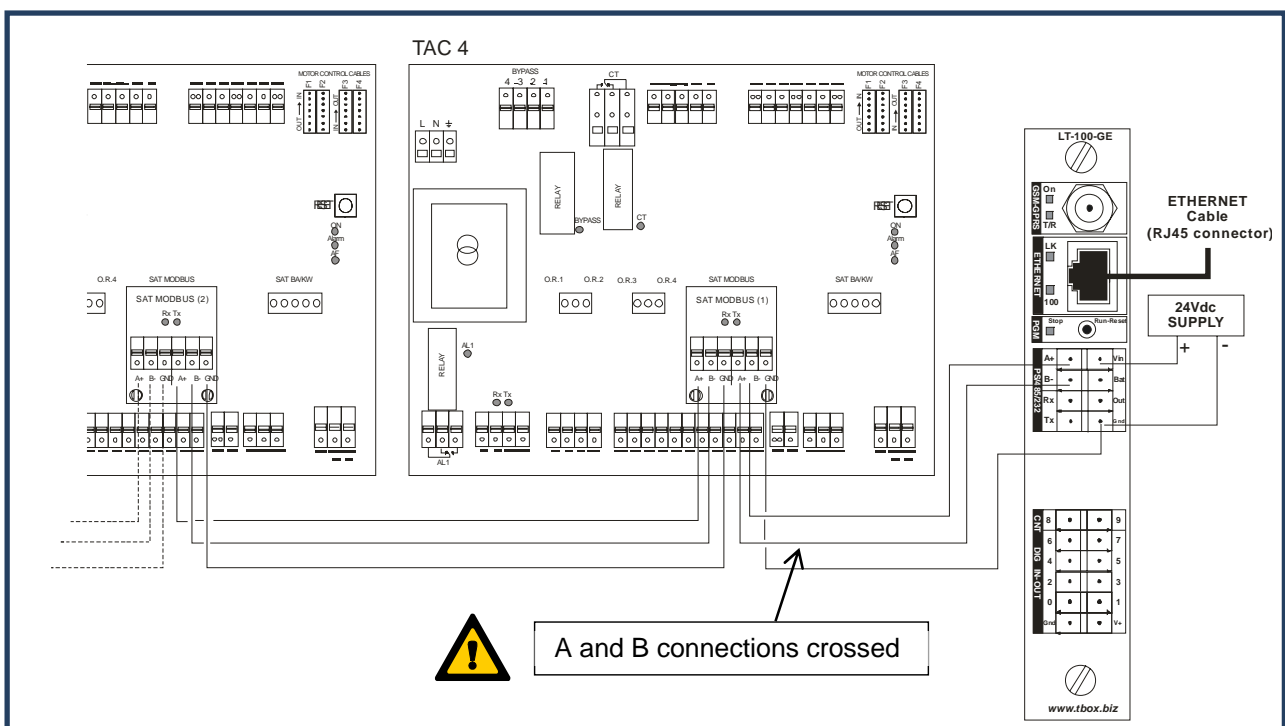

Figure 3
- 4) Plug the 24VDC power supply terminal block to the Module (see Figure 3). The module will detect automatically the presence of a new "Plug&go.bin" file and launch the loading of the programme. The PGM LED stops blinking (ON or OFF) during the loading of the programme (about 1 minute). When the programming is finished, the LED starts blinking again (2 blinks per second).
- 3) Carry out the connections as indicated in Figure 3